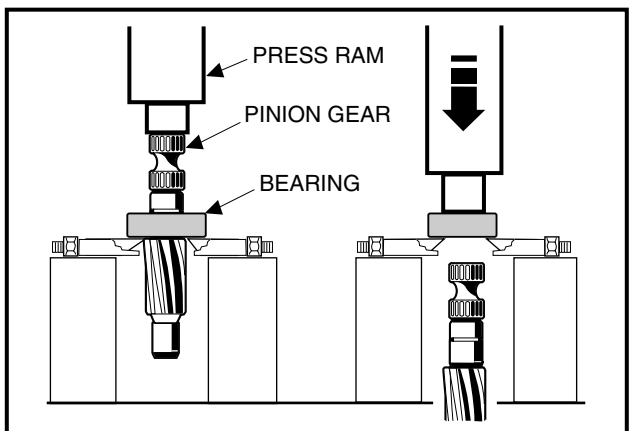

Figure 7-10 Remove Bearing from Pinion
11. If the ball bearing (9) has been damaged, remove the external snap ring (10) (**Figure 7-12, Page 7-10**) and press the bearing off (**Figure 7-10, Page 7-8**).